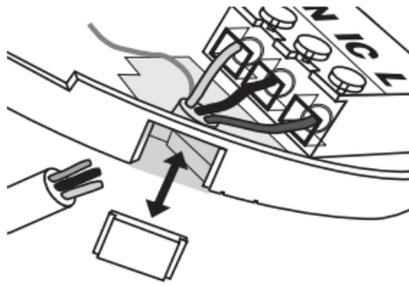

Fig.5
- (b) the mounting plate has a removable section, take it out to interface directly with 25mm conduit as shown in Figure 5. If interfacing to 16mm conduit carefully cut around the marked section, leaving the top intact and replace the section. (If you are not using surface wiring, the removable section must be left in place for electrical safety reasons).